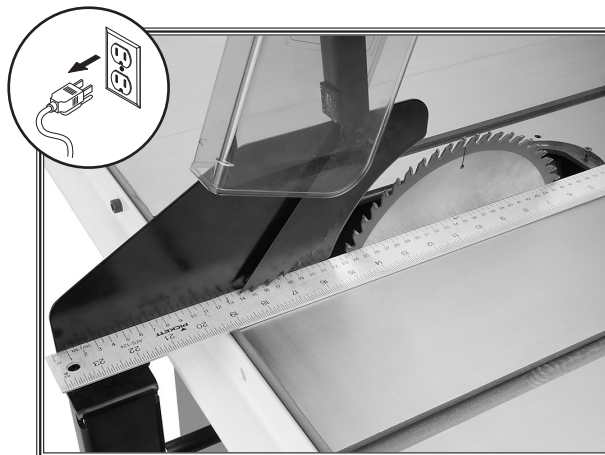

Figure 15. Checking alignment of blade guard.
4. Place a straightedge against the face of the saw blade (**Figure 15**), and slide the splitter over until it touches the straightedge.